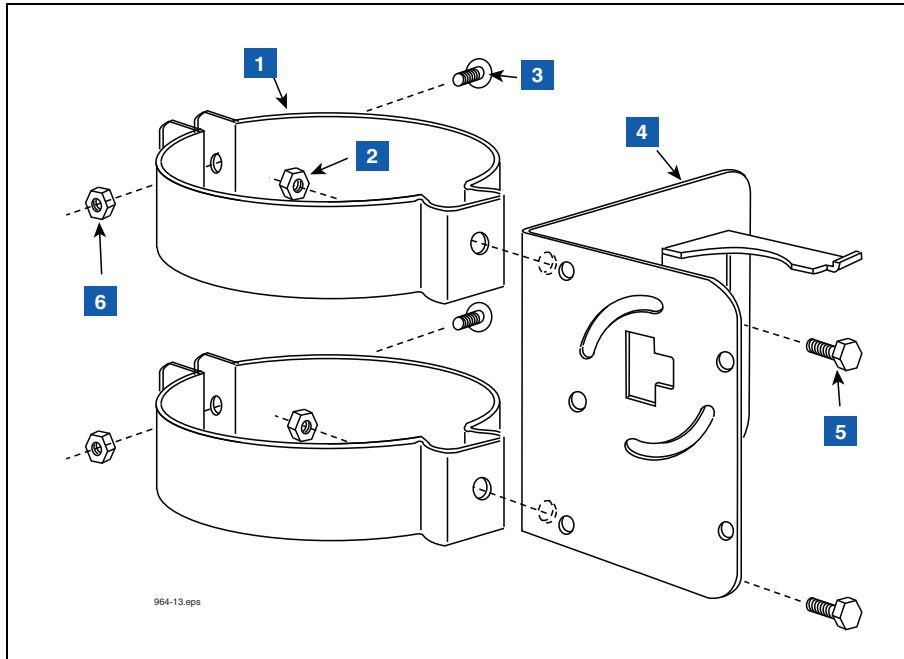

Figure 13. Attaching Hangers to Battery Pack Support Bracket
1. Connect the two conduit hangers from the kit (2- or 4-inch as required) to the battery pack support bracket as shown in Figure 13.
LEGEND FOR NUMBERED BOXES IN Figure 13